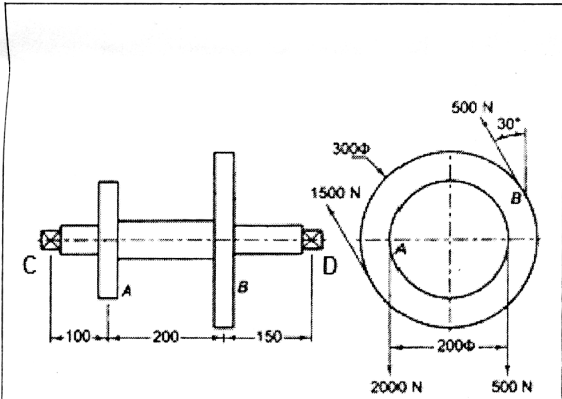

Fig Q 5
- 5 A transmission shaft supporting two pulleys A and B mounted between bearings C and D is shown in Fig. Q 5. If the material is strengths are $\sigma_u = 600$ MPa and $\sigma_y = 380$ MPa, determine the shaft diameter, assuming $C_m = 1.5$, $C_t = 1.0$ and FOS = 2. Also determine the angle of twist of shaft between pulleys A and B if $G = 80 \times 10^3$ MPa. 20